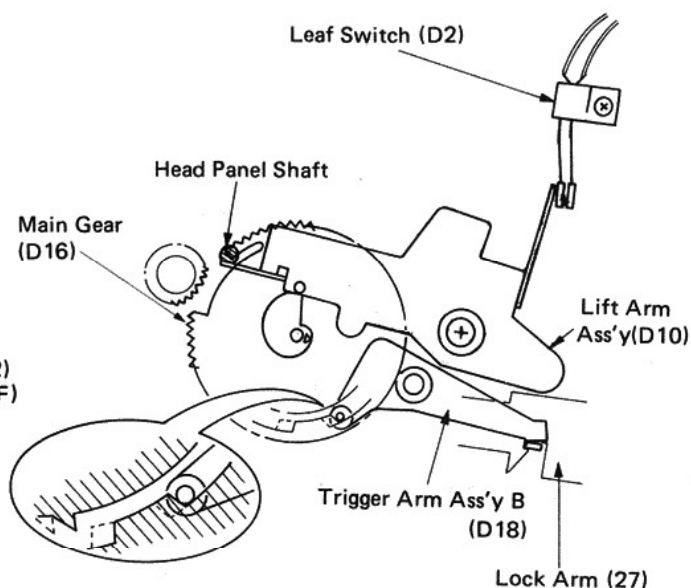
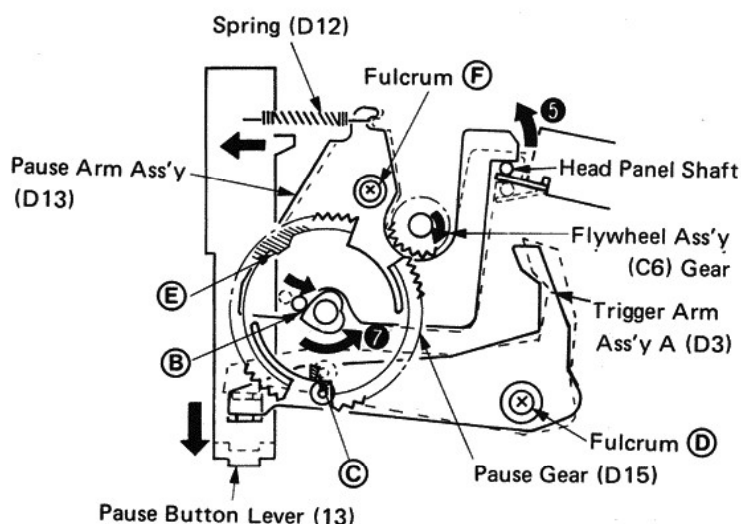

Fig. 4
Fig. 11
- 7 In Fig. 4, when the head panel has reached its highest point, the main gear (D16) reaches its neutral position and stops rotating. Trigger arm ass'y B (D18) holds the main gear in position and is locked by the Lock arm (27) to maintain the PLAY position. (Fig. 4)
- 1 Pressing the PAUSE button again releases the pause button lever (13) and allows the trigger arm assembly A (D3) to move backward. The lock ③ of the pause gear (D15) is thereby disengaged.
- 2 Since the pause arm assembly (D13) pushes the pause gear (D15) at Point B with the aid of the spring (D12), the pause gear begins to rotate in direction ⑦.
- 3 The pause gear (D15) continues to rotate since it is meshed with the gear of the flywheel assembly (C6). The pause gear stops at the point where Point ⑤ comes in contact with Point ③. At that time the flywheel keeps on revolving but the pause gear does not rotate since there is a partial lack of teeth on the pause gear (D15).
- 4 Since the pause arm assembly (D13) returns in direction ⑤, the head panel shaft (namely the head panel assembly) is restored to normal to assume the PLAY (or REC) condition as shown in Fig. 4. (Fig. 11)